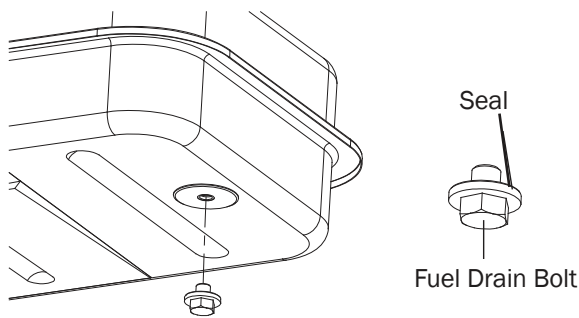

Figure 9 – Drain Plug Removal
1. Remove drain bolt from bottom of fuel tank. See Figure 9.